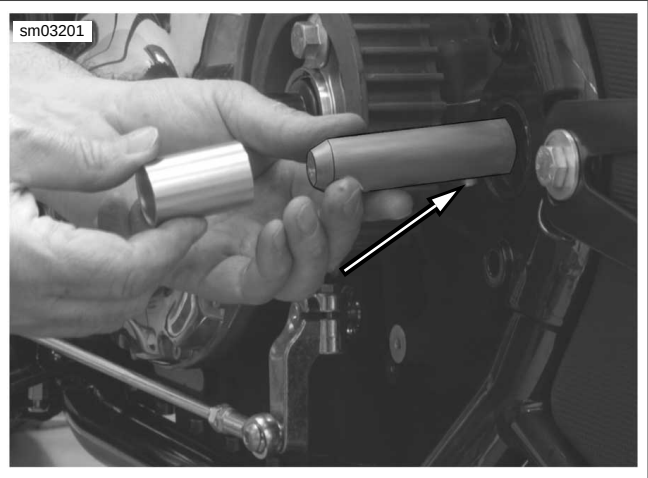

Figure 2-137. Install Swingarm Guide
1. See Figure 2-137. Install SWINGARM GUIDE (Part No. HD-47176) into pivot shaft cavity in frame.